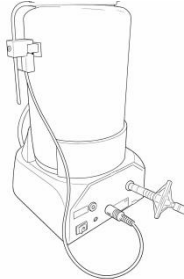

Figure3
- 2- Insert the Non-contact Liquid Level Sensor into the vertical end of the sliding rod from the bottom up (Figure 3)
- 3- Then plug the external sensor cable into the sensor connector at the back of the main unit (Figure 3)